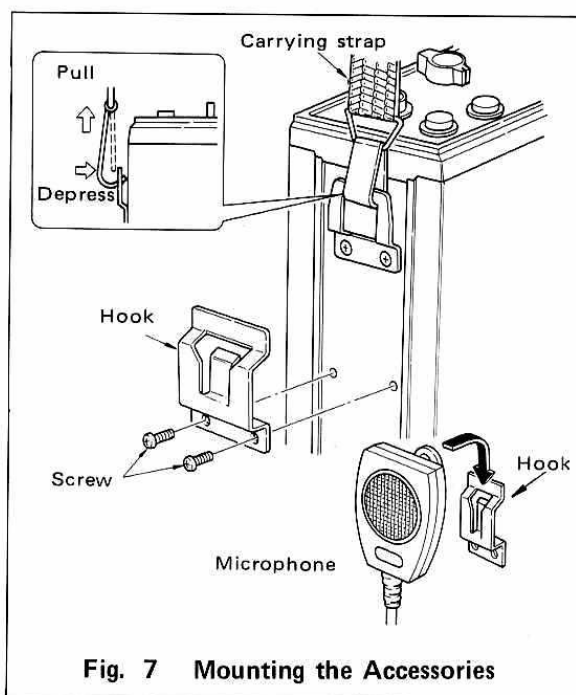

Fig. 7 Mounting the Accessories
- ① Load the batteries (see "Battery Loading").
- ② Attach the supplied carrying strap as shown in Fig. 7.
- ③ Attach the hook as shown in Fig. 7.
- ④ Insert the connector of the supplied microphone into the microphone jack. The microphone may be hung on the hook.
- ③ For mounting the microphone hook, see Fig. 7.